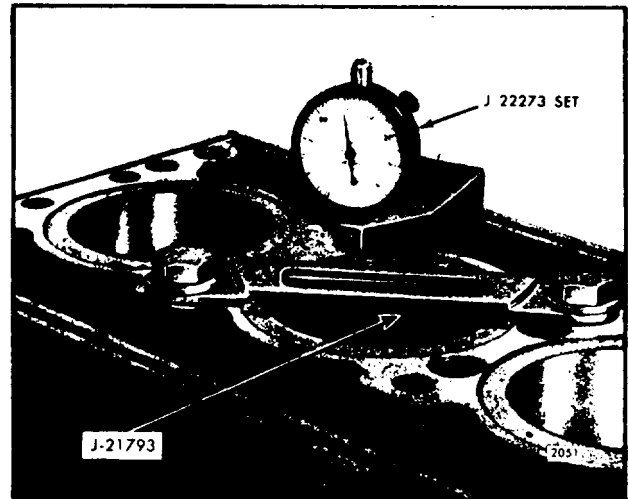

Fig. 5. - Checking Distance of Liner Flange Below Top Face of Block
3. Clamp the liner in place with hold-down clamp J 21793 and measure the distance from the top of the liner flange to the top of the block with dial indicator set J 22273 (Fig. 5). The top of the liner flange should be .0465" to .050" below the top of the block, and there must not be over .0015" difference between any two adjacent liners when measured along the cylinder longitudinal center line. If the above limits are not met, install the liner in another bore and recheck, or use a new liner.
3. If any of the pistons and liners are already in the engine, use hold-down clamps (Fig. 5) to retain the liners in place when the crankshaft is rotated.